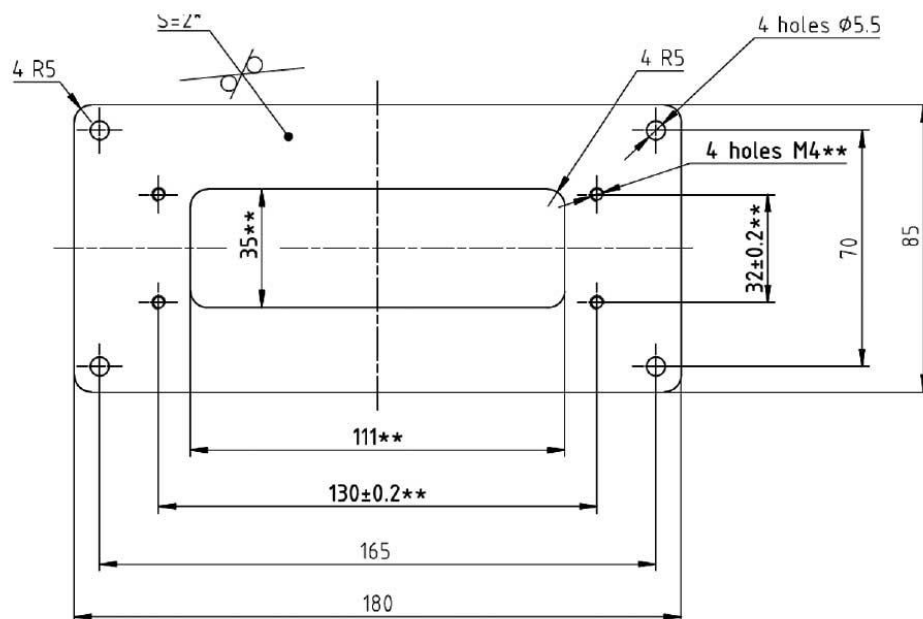

Figure 15
- Plug, male XP1. It is intended to provide connection of draw-out unit auxiliary circuits to auxiliary circuits of relay protection compartment and to power supply. The control wiring plug counterpart and the example of adapter plate design for its installation in the switchgear panel are shown in the Figure 14 and Figure 15. The dimensions ** are specially required for the control wiring plug counterpart attachment. The attachment is also maybe obtained without the adopter plate in case of having the set of holes in switchgear panel in accordance with ** dimensions. The dimensions of the control wiring plug counterpart are shown in the "Dimension and Weights" section.